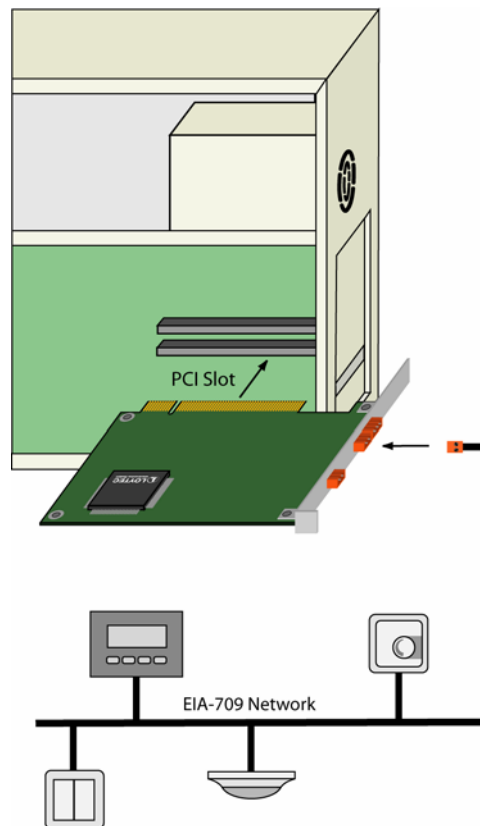

Figure 2: NIC-PCI Hardware Installation
might complain about a 'failed logo test', which you can ignore and continue with the installation. Now switch off your PC and plug the NIC-PCI(P) into an empty PCI slot as depicted in Figure 2.